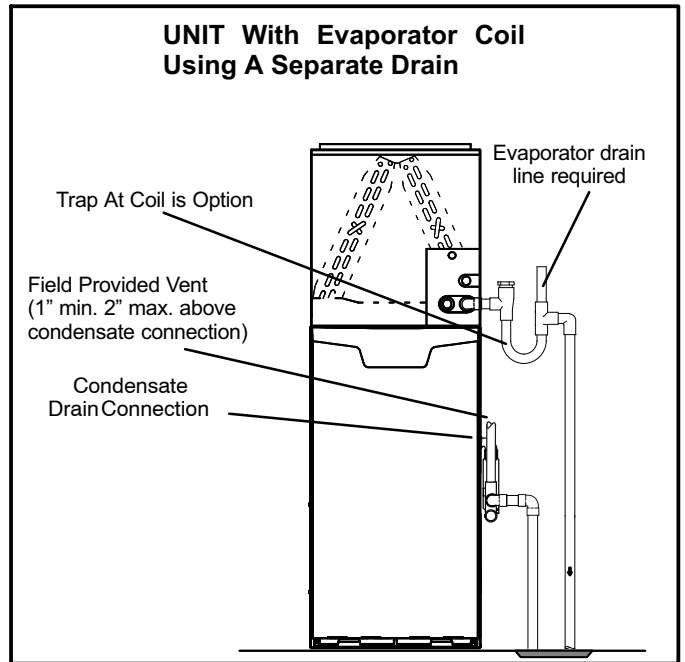

FIGURE 39
- 5 - Figures 39 and 41 show the furnace and evaporator coil using a separate drain. If necessary the condensate line from the furnace and evaporator coil can drain together. See figures, 38, 40 and 42.